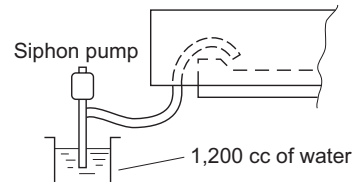

Fig. 2-174
- (3) Pour about 1,200 cc of water into the drain pan using a siphon pump through the air outlet grille. (Fig. 2-174)